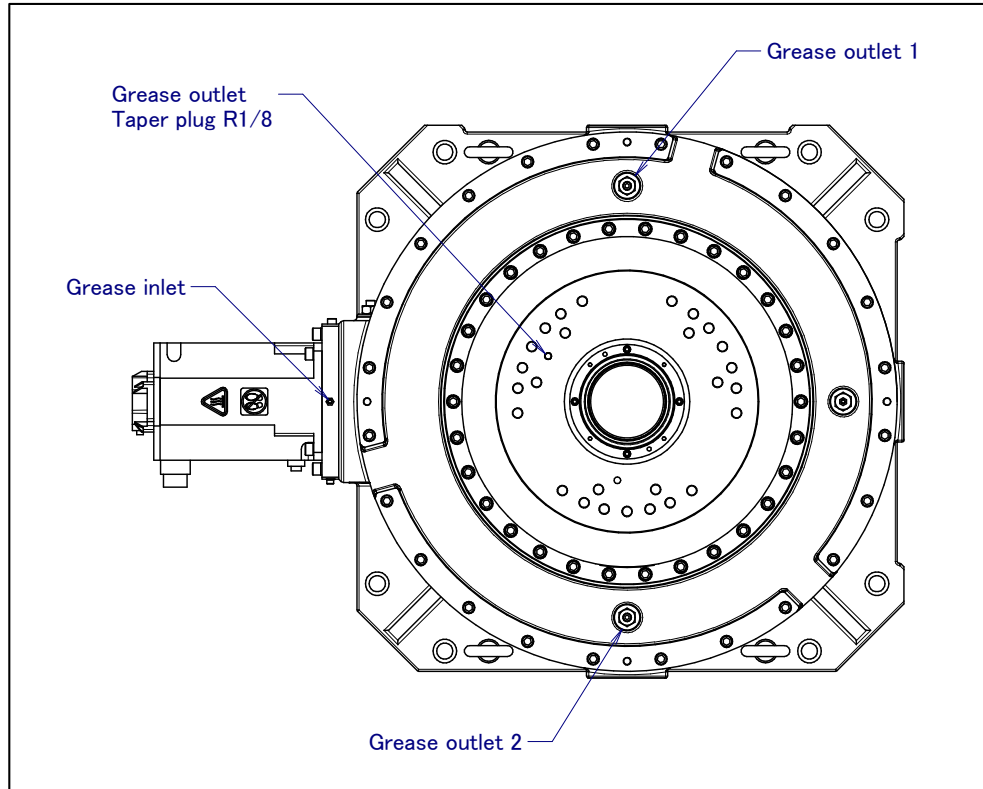

Fig. 7.3.2 (a) Greasing point of the positioner
- 2 Remove the seal bolt from grease outlet 1 and 2. (Fig.7.3.2 (a))